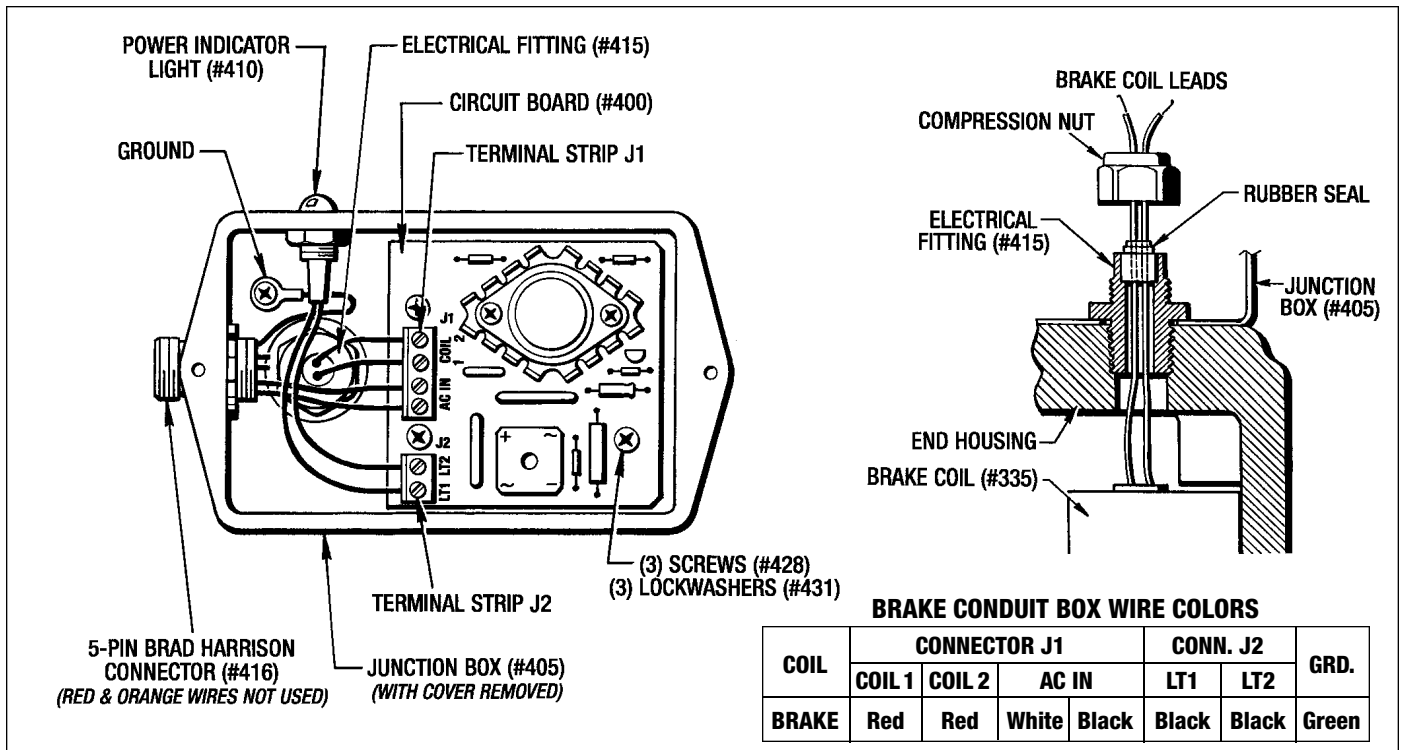

Figure 7.6 - Brake Conduit Box With Cover Removed
6. Disconnect the coil leads from the Terminal Strip J1, located on the Circuit Board (#400) and remove the compression nut from the Electrical Fitting (#415). (See Figure 7.6)
7. Take the (4) Screws (#377) and (4) Dyna-Seal Washers (#378) out of the End Housing (#309).
9. Loosen and remove the (2) Shoulder Bolts (#347) that holds the Armature Plate (#332) in place.
**CAUTION: This Armature Plate (#332) is under spring pressure, so back the (2) Shoulder Bolts (#347) out carefully and evenly to release the spring pressure.**
11. Remove the (6) Springs (#336).
Seat the rubber seal into the threaded part of the Electrical Fitting (#415). Tighten down the compression nut. (See Figure 7.6)
(See Figure 7.6)